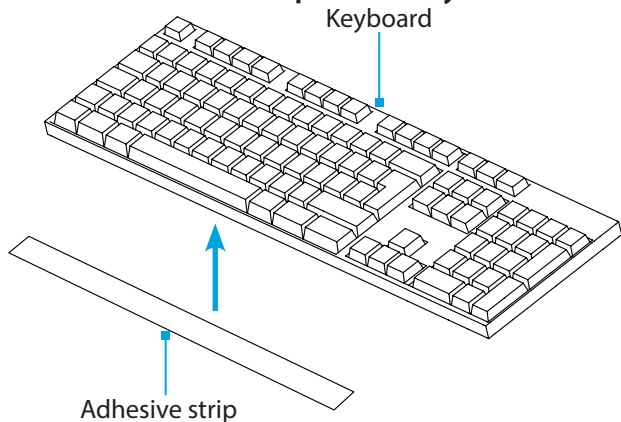

Figure 21
4. Remove the **Plastic Backing** from the second piece of the **Adhesive Strip** and stick it to the surface of the **Keyboard Tray** so that it is aligned with the strip on the **Keyboard**. (Figure 21)